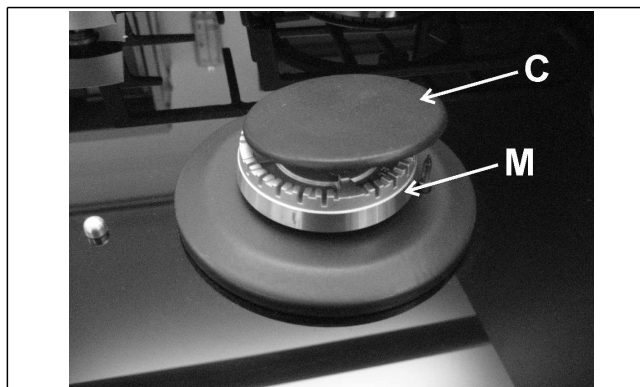

FIG. 6
Periodically wash the hot plate, the enamelled steel pan support, the enamelled burner caps "C" and the burner heads "M" (see fig. 6) with lukewarm soapy water. Following this, all parts should be thoroughly rinsed and dried. Never wash them while they are still warm and never use abrasive powders.
- *check that burner heads slots (see fig. 6) have not become clogged by foreign bodies.*
- *Check that enamelled burner cap "C" (fig. 6) have correctly positioned on the burner head. It must be steady.*